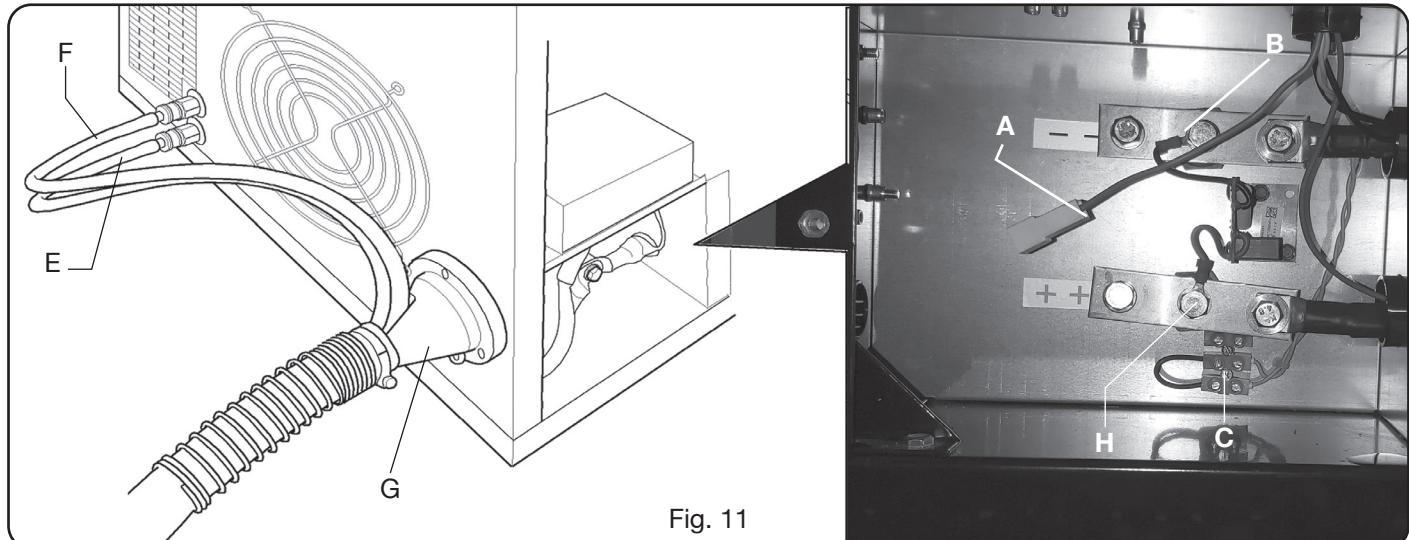

Fig. 11
- After performing this operation, proceed to make the various connections (Fig. 11).
Tighten the end of the earth lead in the clamp **H** (+) as shown in figure 11. Also, connect the cooling water pipes **E** and **F**, being careful to make sure the colours correspond (**E**-red = hot water, return; **F**-blue = cold water, supply), to the respective connection pipes Art. 1156.